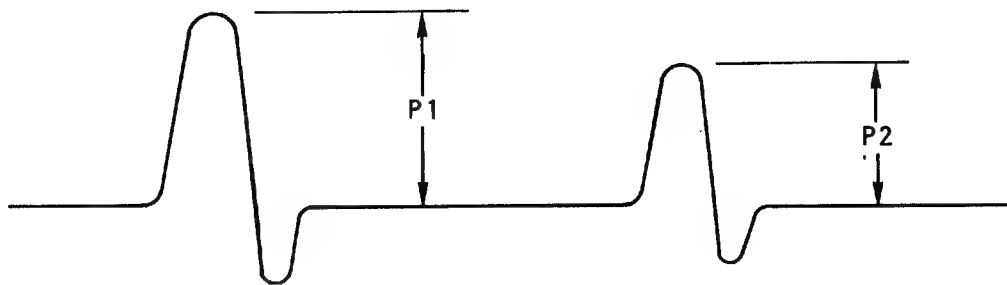

Figure 4-34. Reference Edge Measurement Waveform (TP10)
- m. Run tape in forward direction (Service Aid 23) and compare P1 to P2 on oscilloscope trace. See Figure 4-34.